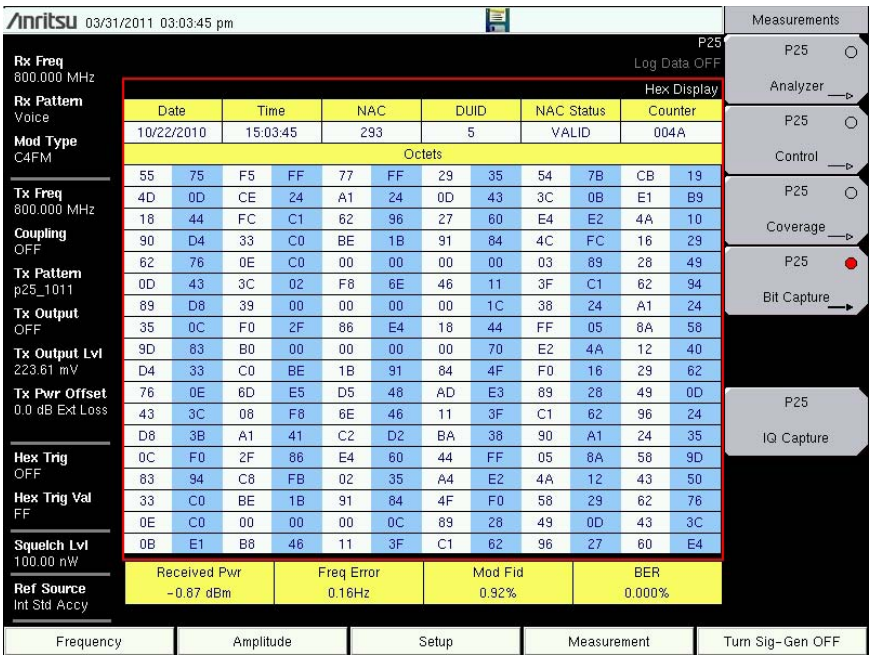

Figure 3-9. P25 Bit Capture Display
- 4. To log data, insert a formatted USB flash drive in the LMR Master and set Log Data to On. The bit capture information will be written to a data stamped folder inside the /usr folder on the root level of the USB flash drive. The tab delimited text file contains the header and table information shown in Figure 3-9. The files are named: